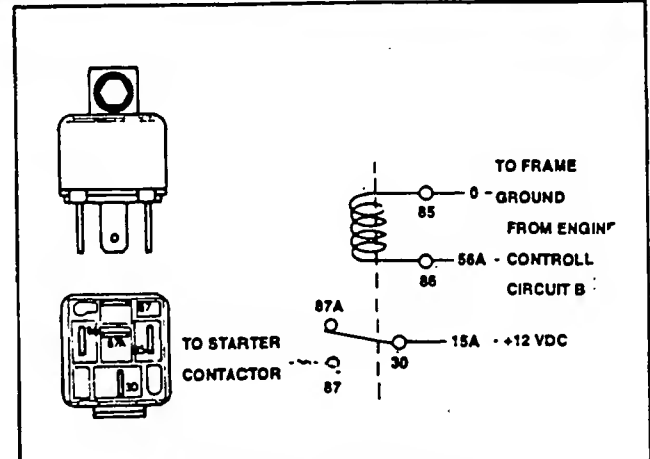

Figure 4. Starter Relay (Type 3 Units)
1. See Figure 4. Disconnect Wire 56A from terminal 86 of the starter relay.